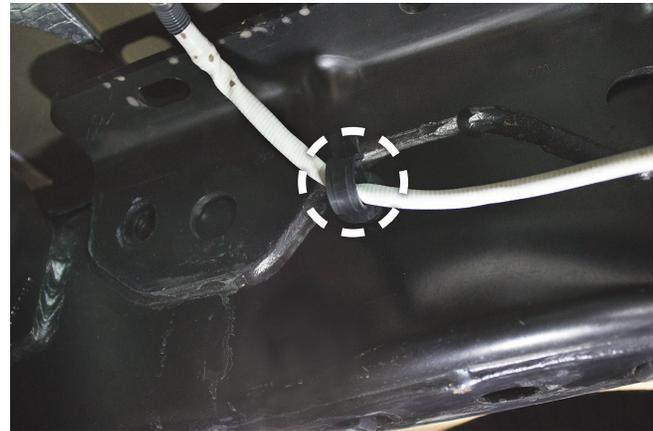

Fig. 38
9. To install the passenger's (right) side upper brace (F), locate the clip (circled in Fig. 38) that holds the wiring harness for the O2 sensor. Remove and discard the clip, as it will no longer be needed.